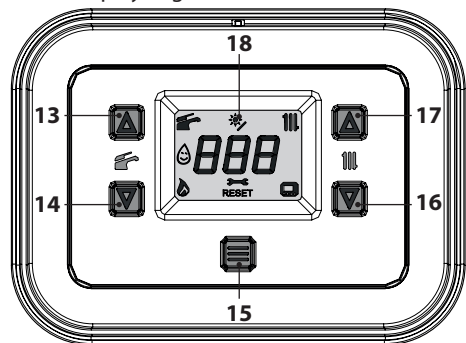
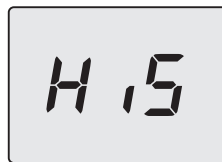

Figure 7.8
Figure 7.9
- Enter “programming mode” by pressing the 14 and 16 buttons simultaneously for 5 seconds (Figure 7.8) until **HiS** (in reference to the “Boiler History” menu) appears on the LCD display (Figure 7.9).
- Press 15 (Figure 7.8) until the message **StF** (Start Full) (Figure 7.11) appears on the LCD display.
- press the 14 and 16 keys simultaneously for 1 seconds (Figure 7.8) (return to previous level).